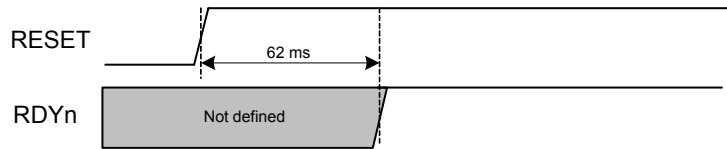

Figure 9. RDYn line functionality
**Note:** The supply rise time is not included in the power up sequence shown in Figure 9.